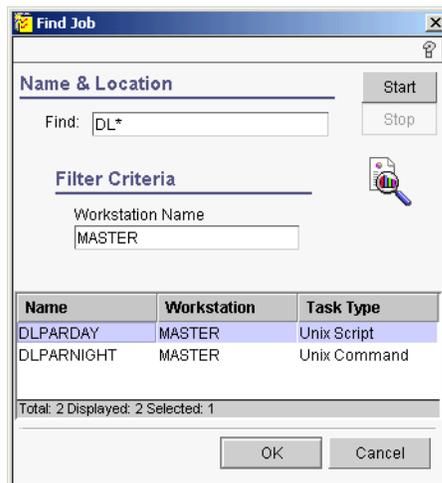

Figure D-9 Find Job with job list
8. Click **Start**. A list of jobs matching the criteria is displayed, as shown in Figure D-9.